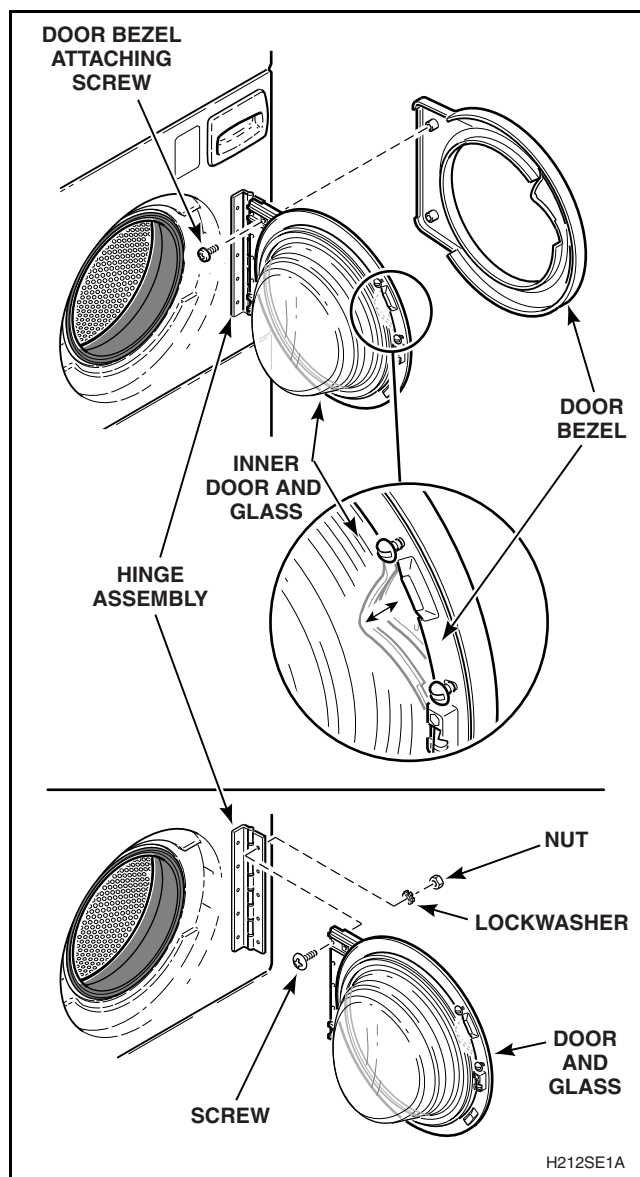

Figure 18
- Remove door bezel by prying inside lip up and forward with fingers. Refer to *Figure 18*.
- While supporting loading door, remove screws, lockwashers and nuts holding loading door to hinge assembly and remove door. Refer to *Figure 18*.